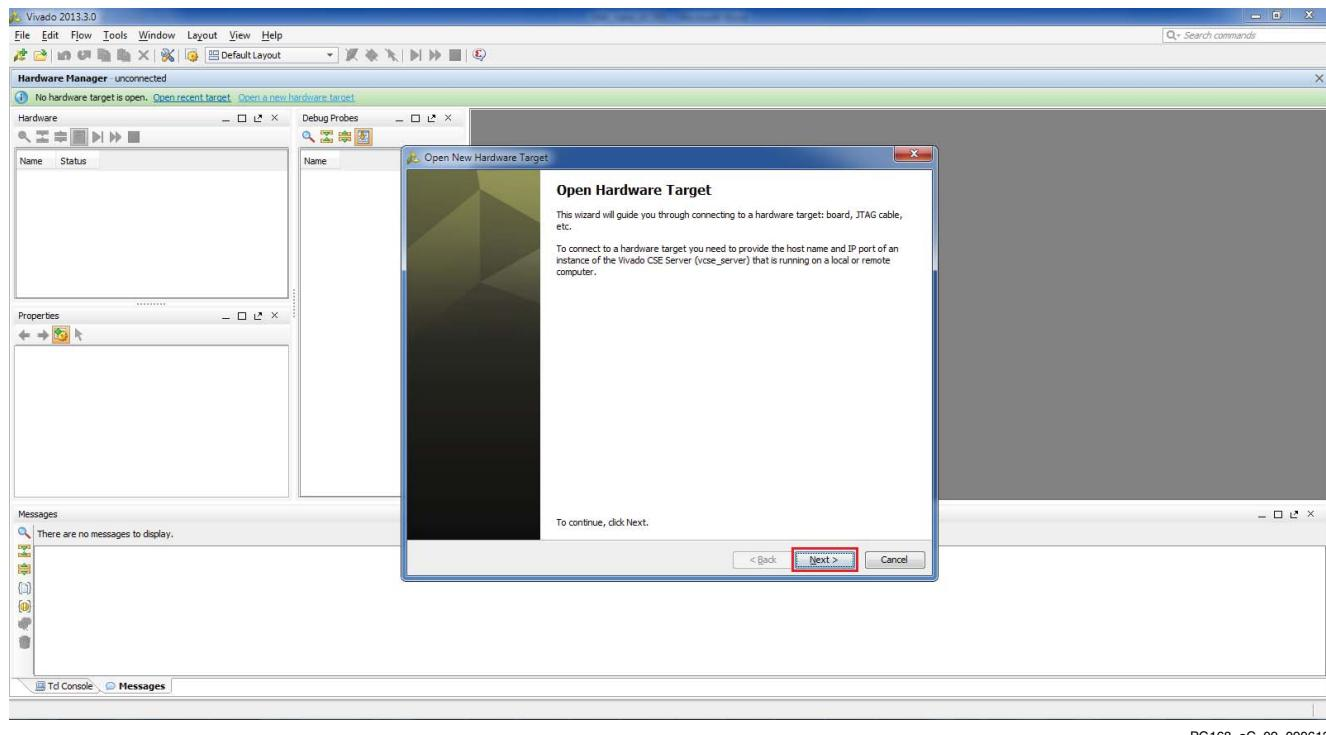

Figure C-9: Open Hardware Target
13. The **Open New Hardware Target** window opens, as shown in Figure C-9. Click **Next**.